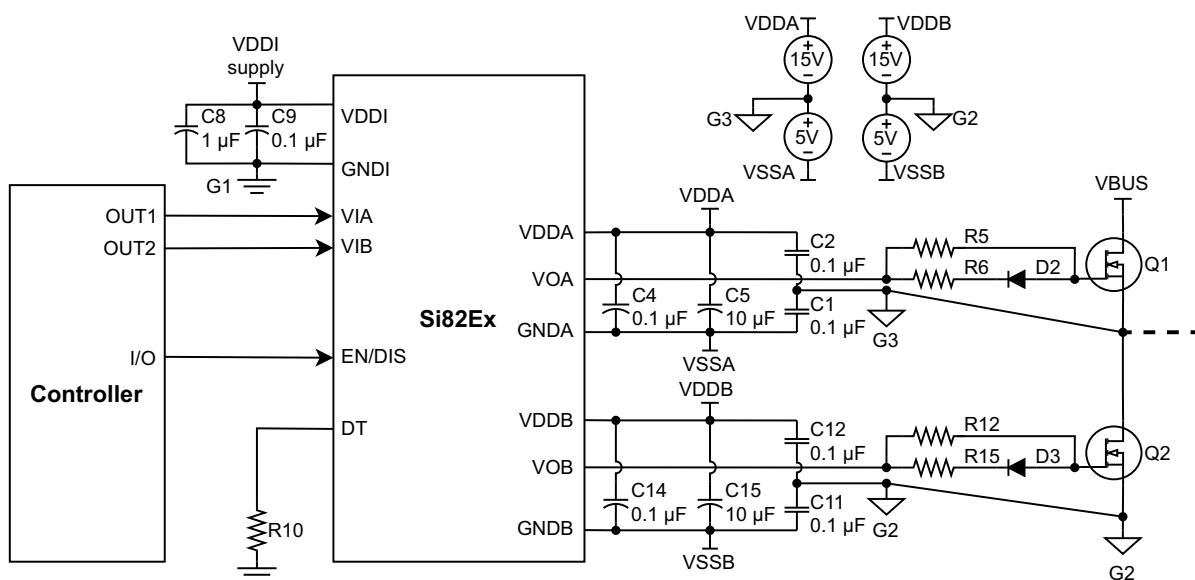

Figure 17. Bipolar Output Connection
Figure 17, “Bipolar Output Connection,” on page 19 is similar to the above high-side/low-side configuration except that the drivers produce bipolar V_{GS} output voltage. The bipolar V_{GS} output requires the system to provide positive and negative voltage sources. Please note that the bootstrap circuit cannot be used to share the low-side voltage sources with the high-side gate driver A for a bipolar V_{GS} output application. In this example, +15 V and –5 V sources are used for low-side gate driver B, and its reference point is also G2. The other set of +15 V and –5 V sources are used for the high-side gate driver A. The high-side voltage sources' reference G3 is electrically connected to FET Q1's source. Please note that the voltage potential at FET Q1's source jumps between VBUS and reference G2. Thus, the high-side voltage sources need to be isolated from reference G2 as well.
- Place resistor R10 close to the Si82Ex device's dead time (DT) pin.
- If the application requires extremely high common mode transient immunity (CMTI) performance, it is recommended to add a 10 nF capacitor between each of the logic input pins and the logic input ground (GNDI), including the no connect (NC) pins. This will help improve the CMTI performance.
- If the system is designed to provide a bipolar V_{GS} output, additional bypass capacitors (C1, C2, C11, and C12 in Figure 17, “Bipolar Output Connection,” on page 19) are required to minimize the return path length of the gate drive signals.